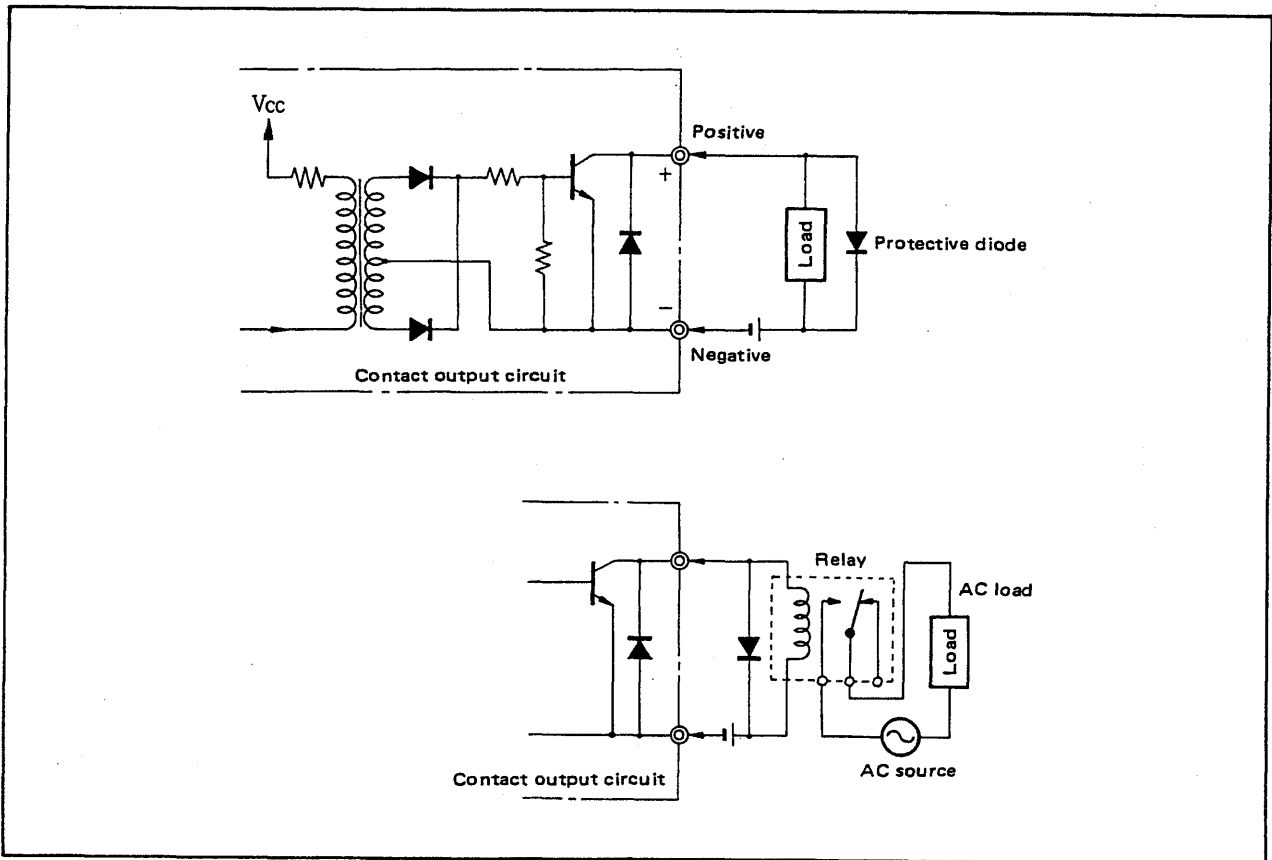

Figure 3-1-3. Connection of Contact Outputs.
- (1) Be sure to terminate all cable connections in solderless crimp-on lugs.
- (2) Each status input contact and voltage input must be as per SLMC specifications. Note the limits on lead-wire resistance, voltage drop in lead-wires, and voltage (high/low) levels. (Refer to the SLMC General Specification at the back of this manual).
- (3) The fail and digital outputs are transistor contact signals, (isolated from power supply and other internal circuitry). When connecting external devices, pay attention to the following: (See Figure 3-1-3.)
- When connecting a relay or other such inductive device, connect a surge absorber (protective diode – Figure 3-1-3, CR circuit, etc.) in parallel with the load.
- Note that contact outputs cannot be connected directly to an AC circuit. Use a relay to switch an AC circuit (see Figure 3-1-3).
- (4) Status I/O signals are specified by a program. If these are not specified, status signals 1 through 3 are used as DIs (inputs) and status signal 4 as a DO (output).
- (5) Use shielded twisted-pair SCCD cable for communication lines (terminals 17, 18).
- (6) Short-circuit unused current output terminals.